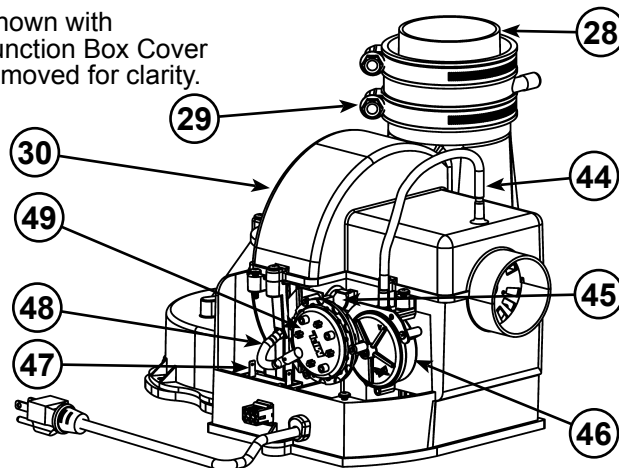

Figure 50
- 28 ****Rubber Coupling (see Figure 5) (see also **Figure 50**)
- 29 Gear Clamp (see Figure 5) (see also **Figure 50**)
- 30 ***Blower with Power Cord (see Figure 5) (see also **Figure 50**)
- 44 Air Tubing (Intake) (see Figure 5) (see also **Figure 50**)
- 45 Blower High Limit Switch (see Figure 5) (see Figure 50)
- 46 Intake Air Pressure Switch (NC) (inside box) (see Figure 5) (see also **Figure 50**)
- 47 Capacitor (see Figure 5) (see also **Figure 50**)
- 48 Air Tubing (Exhaust) (see Figure 5) (see also **Figure 50**)
- 49 Exhaust Air Pressure Switch (NO) (inside box) (see Figure 5) (see also **Figure 50**)